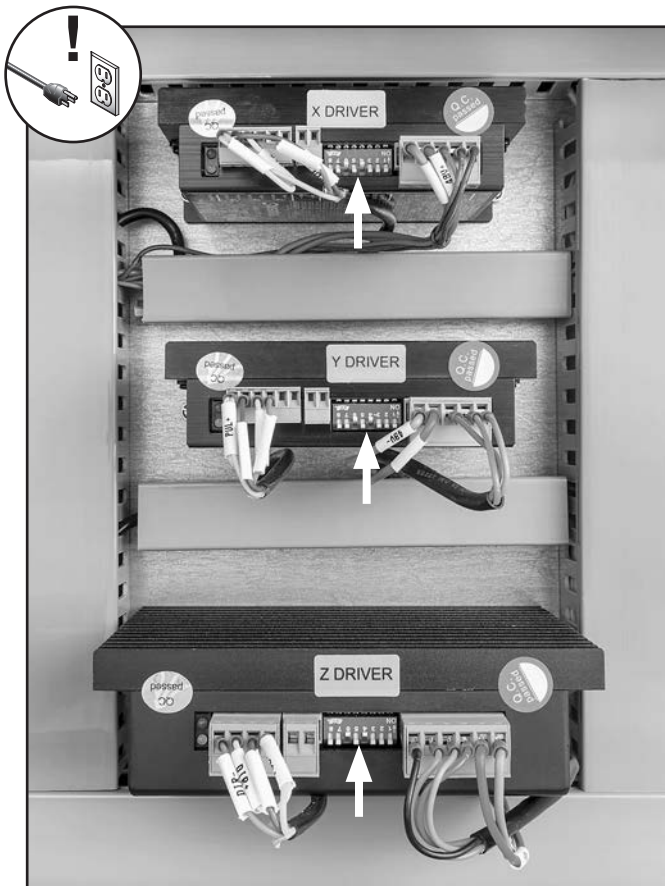

Figure 122. Example of stepper driver DIP switch locations.
2. Open electrical cabinet and locate (3) stepper driver DIP switches (see **Figure 122**).